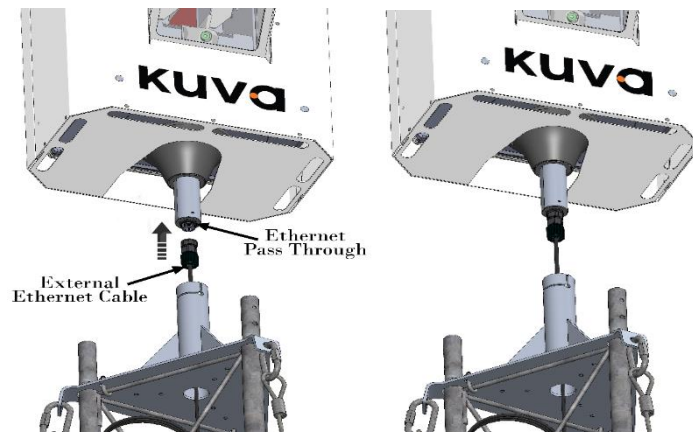

Figure 76 Ethernet connection to camera
2. Connect the Ethernet cable to the GCI360 Ethernet port at the base of the camera post, via the RJ45 connection as per Figure 76. The supplied power cable has a circular threaded retention mechanism that must be screwed down by hand to secure the power cable to the camera. Turn the ethernet cable locknut counterclockwise slowly until there is a click as the opening of the threads pass each other. Then tighten clockwise gently until the threads are engaged. Ensure the male connection on the camera post is not rotating when tightening the female end of the cable to the camera.